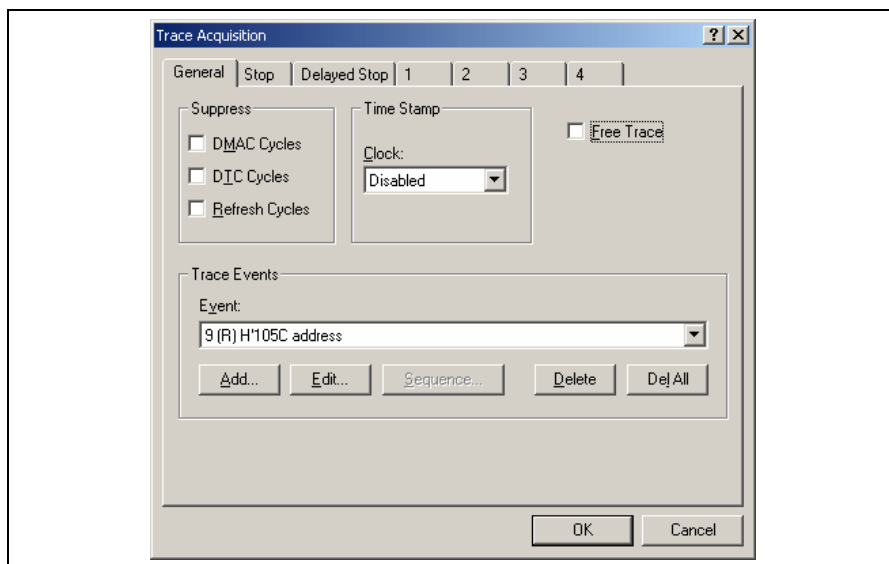

Figure 6.45 [Trace Acquisition] Dialog Box (Pages Added)
- (7) To enable the event condition that has been set, uncheck the [Free Trace] check box on the [General] page. This will add pages [1] to [4] (see figure 6.45, [Trace Acquisition] dialog box).